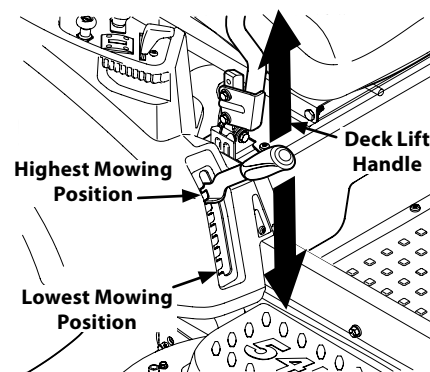

Figure 4-12
- a. Using the deck lift handle, raise the deck to the position that provides the most horizontal run of the belt between the deck idler pulleys and the PTO pulley on the bottom of the engine. See Figure 4-12.
- d. Lower the deck into the lowest mowing position using the deck lift handle. See Figure 4-12.
- e. Lower the deck into the lowest mowing position using the deck lift handle. See Figure 4-12.
11. Place the deck lift handle into the highest mowing position and slide the deck out from beneath the tractor. See Figure 4-12.
1. Place the deck lift handle in the highest mowing position. See Figure 4-12.